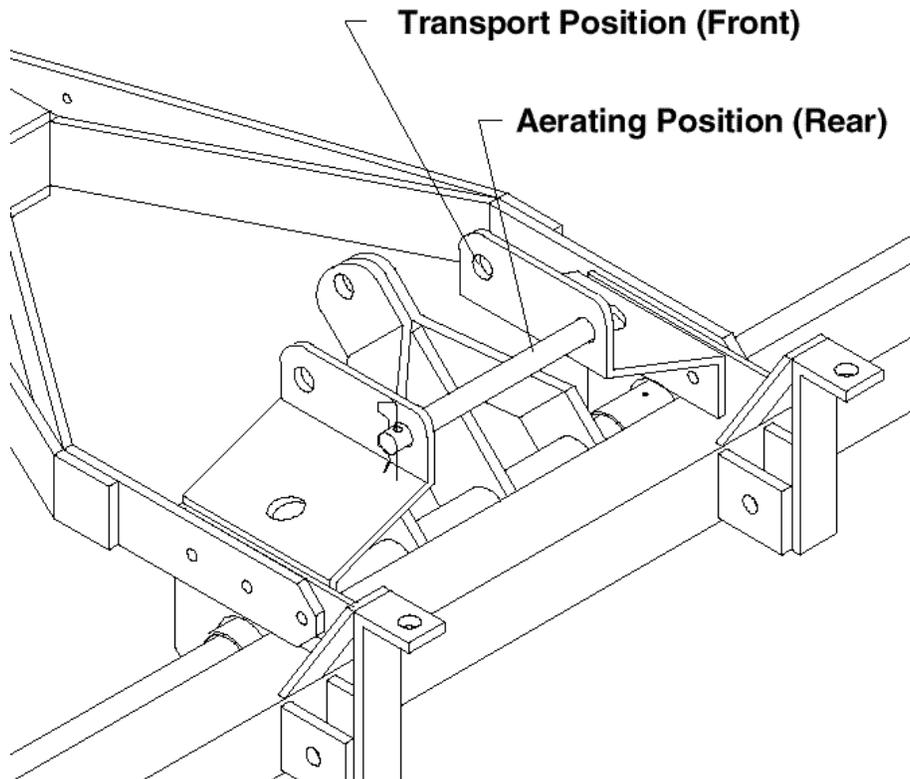

Figure 2
1. Move the lock pin to the rear (aerating) position (Fig. 2).
6. When transporting the Aerator 686, place the lock pin in the front hole. This prevents the aerator from dropping in case of accidental release of oil in the lift cylinder (Fig. 2).